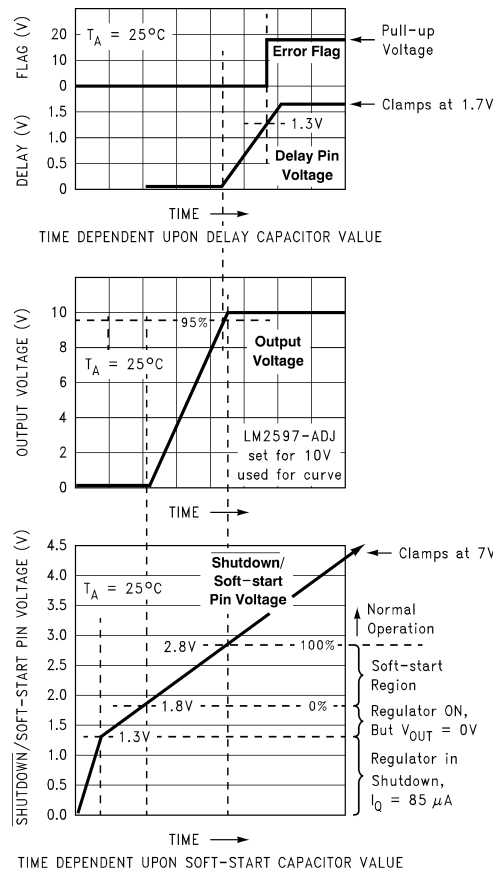
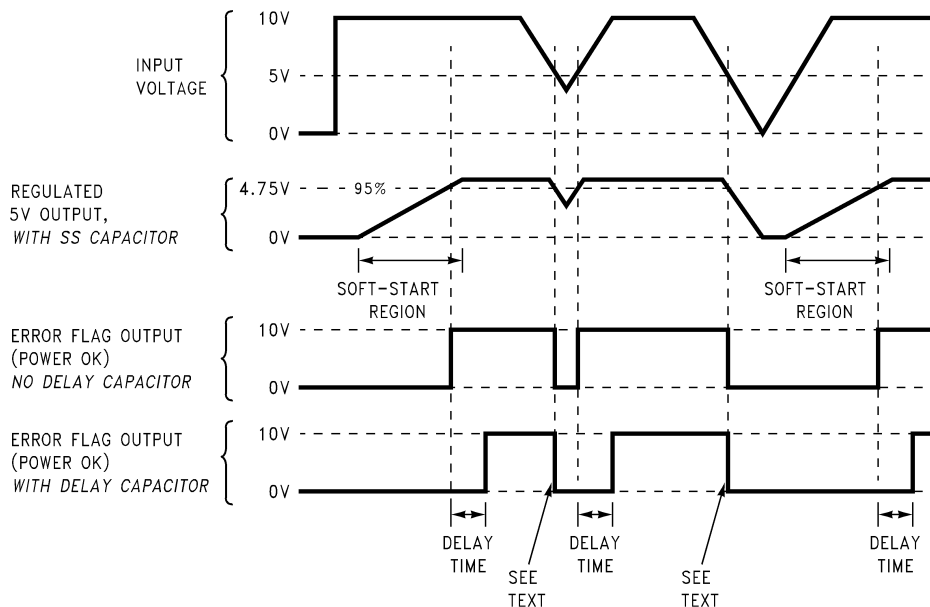

Figure 31. Soft-Start, Delay, Error, and Output
Figure 33. Timing Diagram for 5-V Output
A capacitor on this pin provides the regulator with a soft-start feature (slow start-up). When the DC input voltage is first applied to the regulator, or when the Shutdown/Soft-start pin is allowed to go high, a constant current (approximately 5  $\mu$ A begins charging this capacitor). As the capacitor voltage rises, the regulator goes through four operating regions (see the bottom curve in Figure 31).
3. Soft-start Region – When the  $\overline{SD/SS}$  pin voltage is between 1.8 V and 2.8 V (at 25°C), the regulator is in a soft-start condition. The switch (Pin 8) duty cycle initially starts out very low, with narrow pulses and gradually get wider as the capacitor  $\overline{SD/SS}$  pin ramps up towards 2.8 V. As the duty cycle increases, the output voltage also increases at a controlled ramp up. See the center curve in Figure 31. The input supply current requirement also starts out at a low level for the narrow pulses and ramp up in a controlled manner. This is a very useful feature in some switcher topologies that require large start-up currents (such as the inverting configuration) which can load down the input power supply.
The lower curve shown in Figure 31 shows the soft-start region from 0% to 100%. This is not the duty cycle percentage, but the output voltage percentage. Also, the soft-start voltage range has a negative temperature coefficient associated with it. See the soft-start curve in Electrical Characteristics.
Provides delay for the error flag output. See the upper curve in Figure 31, and also refer to timing diagrams in Figure 33. A capacitor on this pin provides a time delay between the time the regulated output voltage (when it is increasing in value) reaches 95% of the nominal output voltage, and the time the error flag output goes high. A 3-μA constant current from the delay pin charges the delay capacitor resulting in a voltage ramp. When this voltage reaches a threshold of approximately 1.3 V, the open collector error flag output (or power OK) goes high. This signal can be used to indicate that the regulated output has reached the correct voltage and has stabilized.